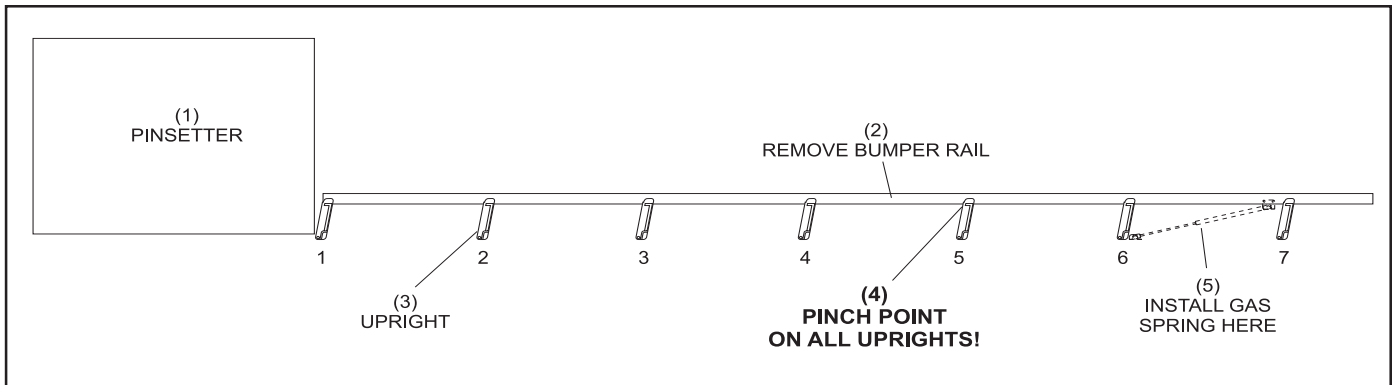

Figure 6. Gas Spring Location
- The gas spring will be located between the 6th and 7th upright on gutter #4 and gutter #5. Refer to *Figure 6*. Holes are predrilled on the gutter and rail for gas spring installation.